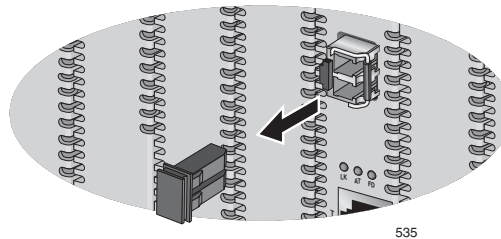

Figure 33. Removing the Dust Cover from the SFP Transceiver
2. Remove the dust cover from the SFP transceiver in the line card, as shown in Figure 33.